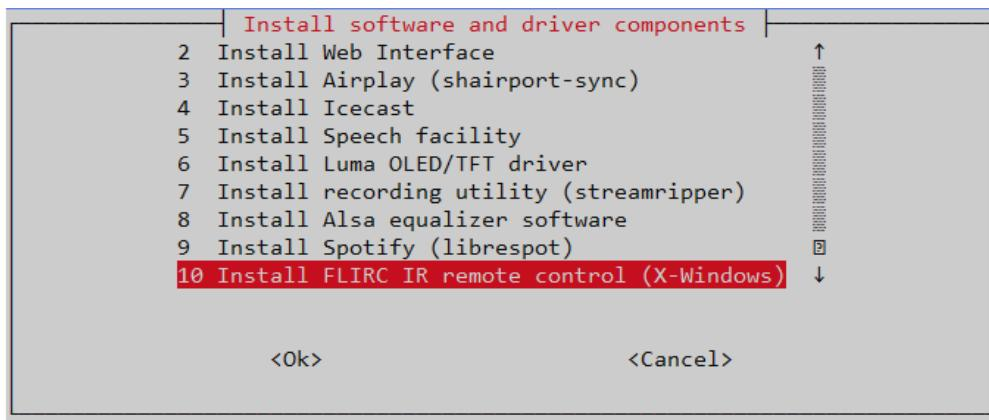

Figure 214 Install FLIRC IR remote control
- Select option **10 Install FLIRC IR remote control (X-Windows)** from the **radio-config** menu shown in *Figure 214 Install FLIRC IR remote control* on page 160. Note that you will need to use the down arrow key on your keyboard to see option 10.